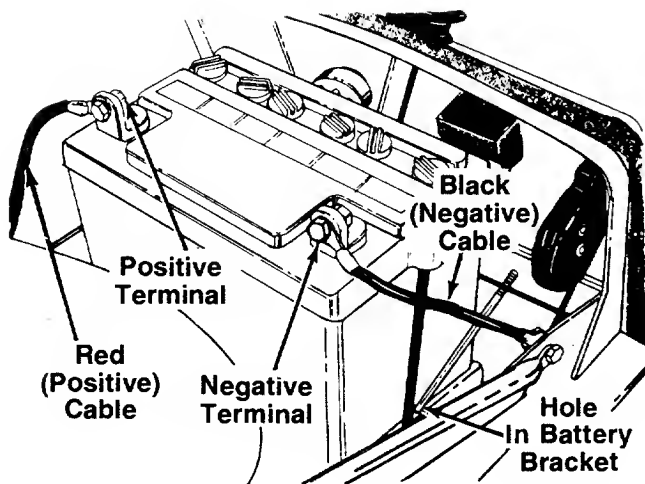
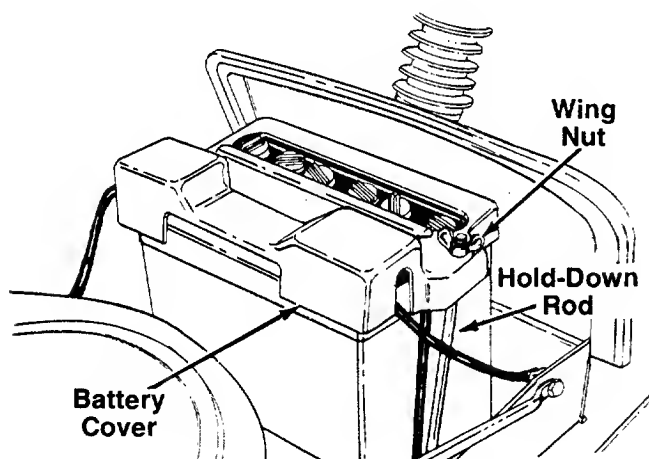

FIGURE 6.
FIGURE 7.
See figure 6.
3. Attach the positive cable (heavy red wire) to the positive battery terminal (+) with hex bolt 5/8" long, 1/4" lock washer and hex nut. See figure 6.
5. Hook one hold-down rod into the hole in the edge of the battery bracket beside the battery. See figure 6. Place the black plastic battery cover in position over the hold-down rod. Secure with wing nut. Attach other hold-down rod to the other side of battery cover in the same manner. See figure 7.